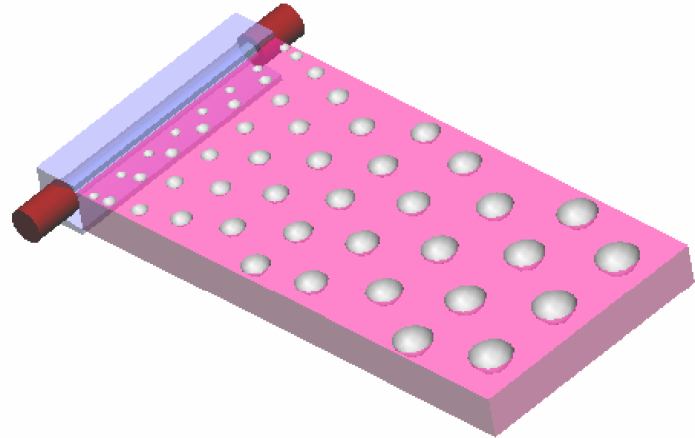

Figure 1. Example of lighting used in hand-held devices, such as PDAs (3D texture enlarged for illustration).
LCD (liquid crystal display) panels are used in a wide range of devices, ranging from small displays in watches, PDAs, and cell phones to large flat-panel computer displays and televisions. The example shown in Figure 1 is not a specific design, but is
- **Scattering:** Includes scattering from arrays of "paint dots" or arrays of surface relief features (shown schematically in Figure 1), as well as volume scattering through non-homogeneous materials.